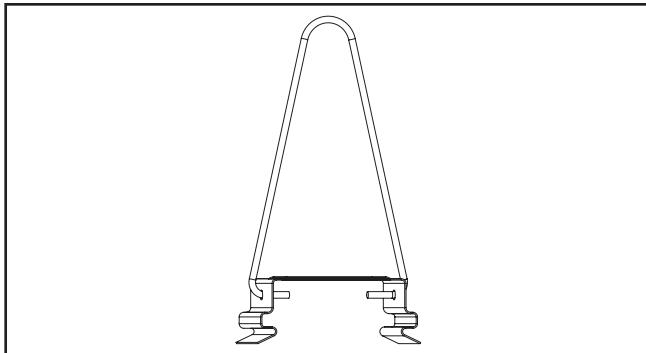

**Figure 3.**
4. Orient the luminaire so conduit fitting faces incoming supply power or conduit. Align the recesses in luminaire body with mounting clips and apply gentle upward pressure to secure luminaire onto both mounting clips. (Figure 3)